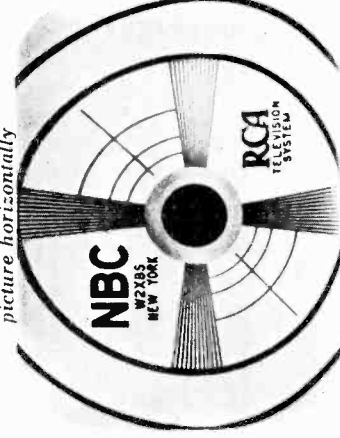

Figure 12—INCORRECT VERTICAL LINEARITY—(Circles flattened at bottom)
3. **Vertical Linearity.**—The third control is operated in conjunction with the Height Control, No. 4, to give the correct vertical proportions to the picture. It may require readjustment due to changing of the Height Control and due to the gradual aging of the tubes. See Figures 12 and 13. If the picture fills the frame but is crowded near the top, turn Vertical Linearity Control clockwise and Height Control counterclockwise. If crowded towards the bottom, turn these two controls in the reverse directions.